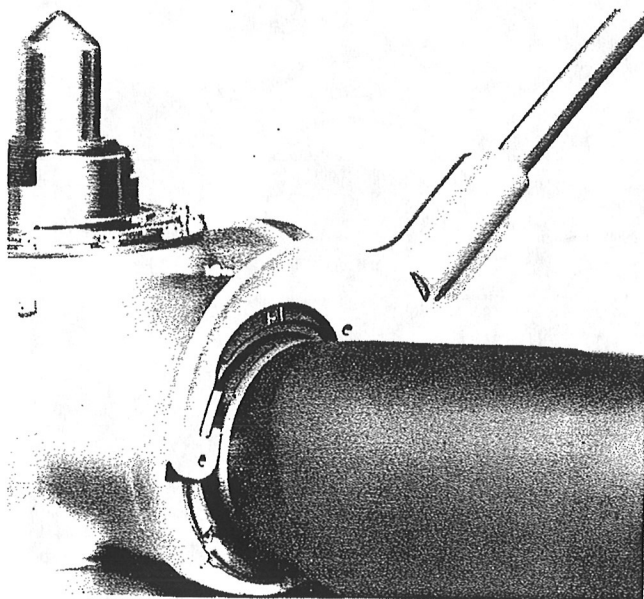

Figure 14—Tightening Blade Retaining Nut
- n. Tighten the blade retaining nut snugly by using the blade retaining nut wrench and a bar. Tighten the nut until it is tight and the purple painted lock slot in the blade retaining nut matches the purple painted lock castellation in the hub. (See figure 14.)